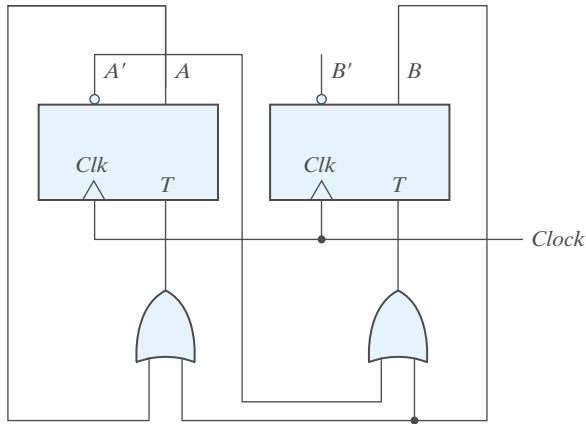

FIGURE P5.8
- 5.8* Derive the state table and the state diagram of the sequential circuit shown in Fig. P5.8. Explain the function that the circuit performs. (HDL—see Problem 5.36.)
5.36 Write and verify an HDL structural description of the machine having the circuit diagram (schematic) shown in Fig. P5.8.